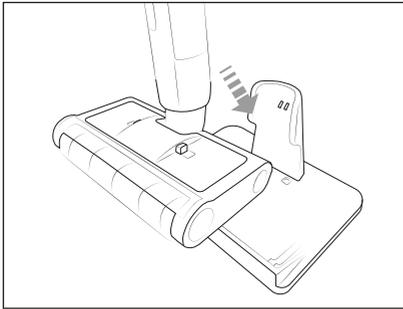

Fig. 4
- ◆ Place the appliance in the charger **9** (see Fig. 4). Make sure that the appliance is standing straight in the charger **9** so that the charging contacts **8** of the charger **9** connect to the charging contacts **2** of the appliance. The battery indicator **3** starts flashing, and the charging process starts.